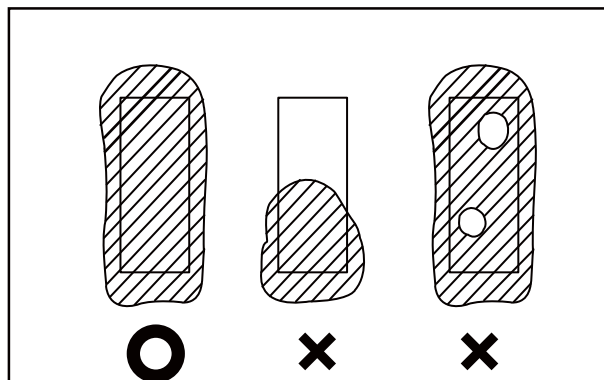

Fig. 6-6 Measuring Procedure 3
3. Spread the specimen evenly on the prism surface. Do not allow bubbles staying on the surface. (Figure 6-6)